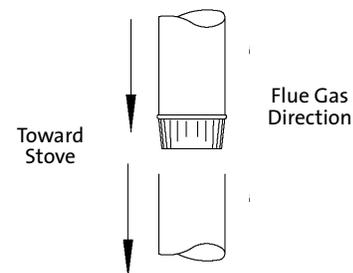

Figure 4. Chimney connector orientation.
- Each connector section must be oriented with the male (crimped) end pointing toward the stove. See **fig. 4.**